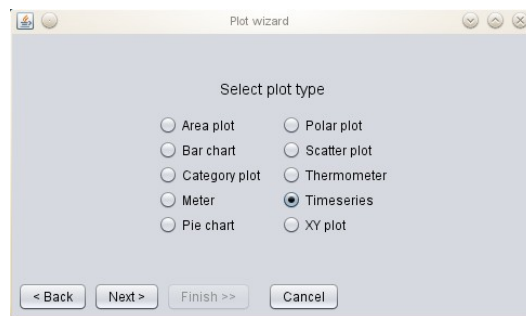

Figure 19: Selecting plot type
3. Select the type of plot to be generated (see figure 19). Available choices will be dependent of selected source. Click Next when done, or Back to change earlier selection.